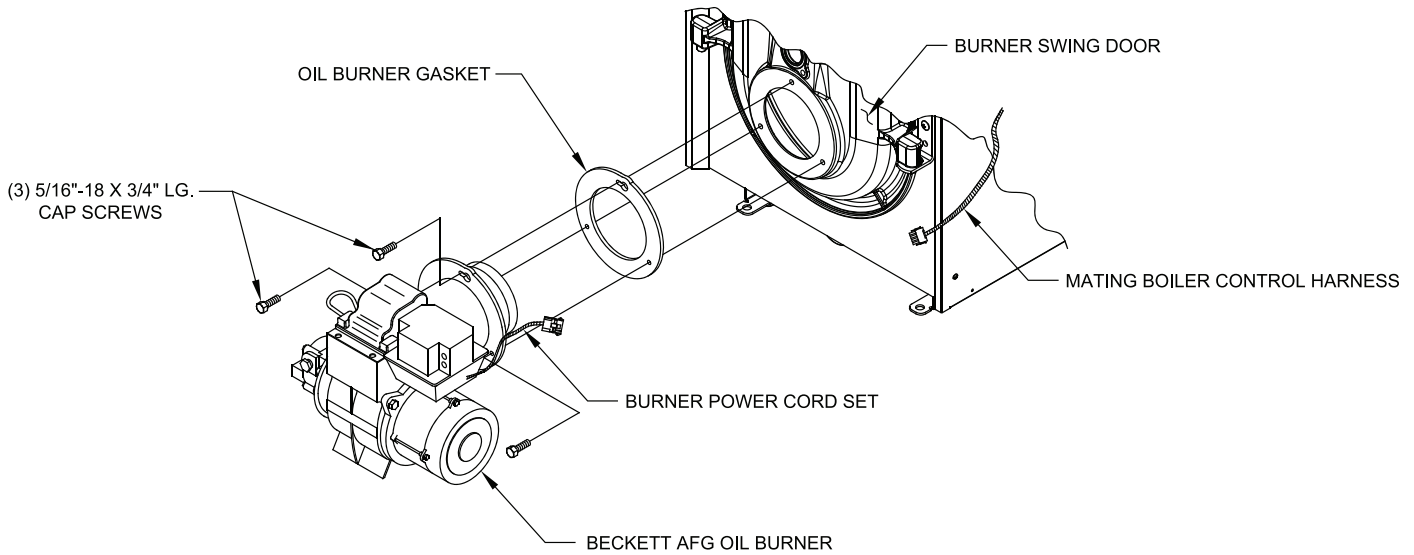

Figure 10: Oil Burner Installation (Beckett shown)
8. Install oil burner. (See Figure 10 and Table 4)